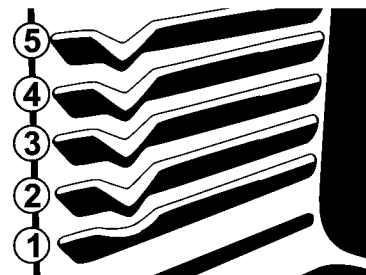
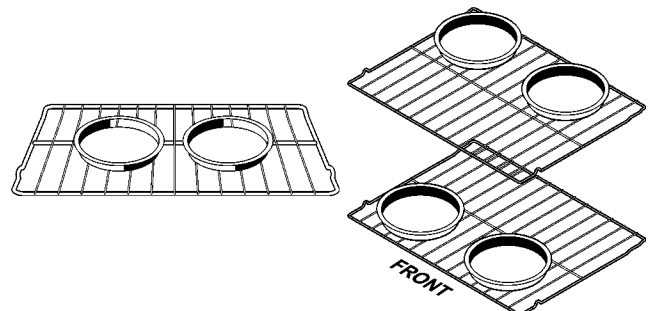

Figure 28: Rack positions
Figure 29: Single rack pan spacing (L), Double spacing (R)
- For best results when baking cakes or cookies using two oven racks, use the convection bake function. If using two racks, place bakeware on oven rack in positions 1 and 4 (Figure 28) and place pans as shown in Figure 29. Use glide rack in position 1 and a flat rack in position 4.